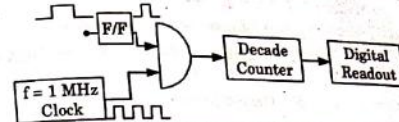

Fig. 4.14.3. Block diagram of electronic counter in ratio mode.
2. A basic circuit for the ratio mode of operation is shown in Fig. 4.14.3.